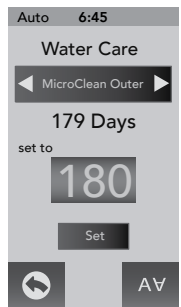

Figure 12.7e
A programmable filter timer can be set to remind you when to clean or replace the MicroClean Outer Filter. Tap  (Figure 12.7d) until you reach the “MicroClean Outer” tab to enter the Programming Menu (Figure 12.7e).
1. From the “Water Care” Menu you can to set the MicroClean Outer timer, Figure 12.7e.
A programmable filter timer can be set to remind you when to replace the MicroClean Inner Filter. Tap  (Figure 12.7e) until you reach the “MicroClean Inner” tab to enter the Programming Menu, Figure 12.7f.